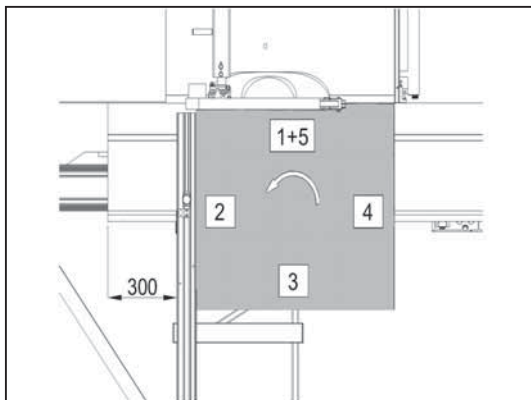

Fig.1
2. Sequentially cutting NO.1~5 as Fig.1.